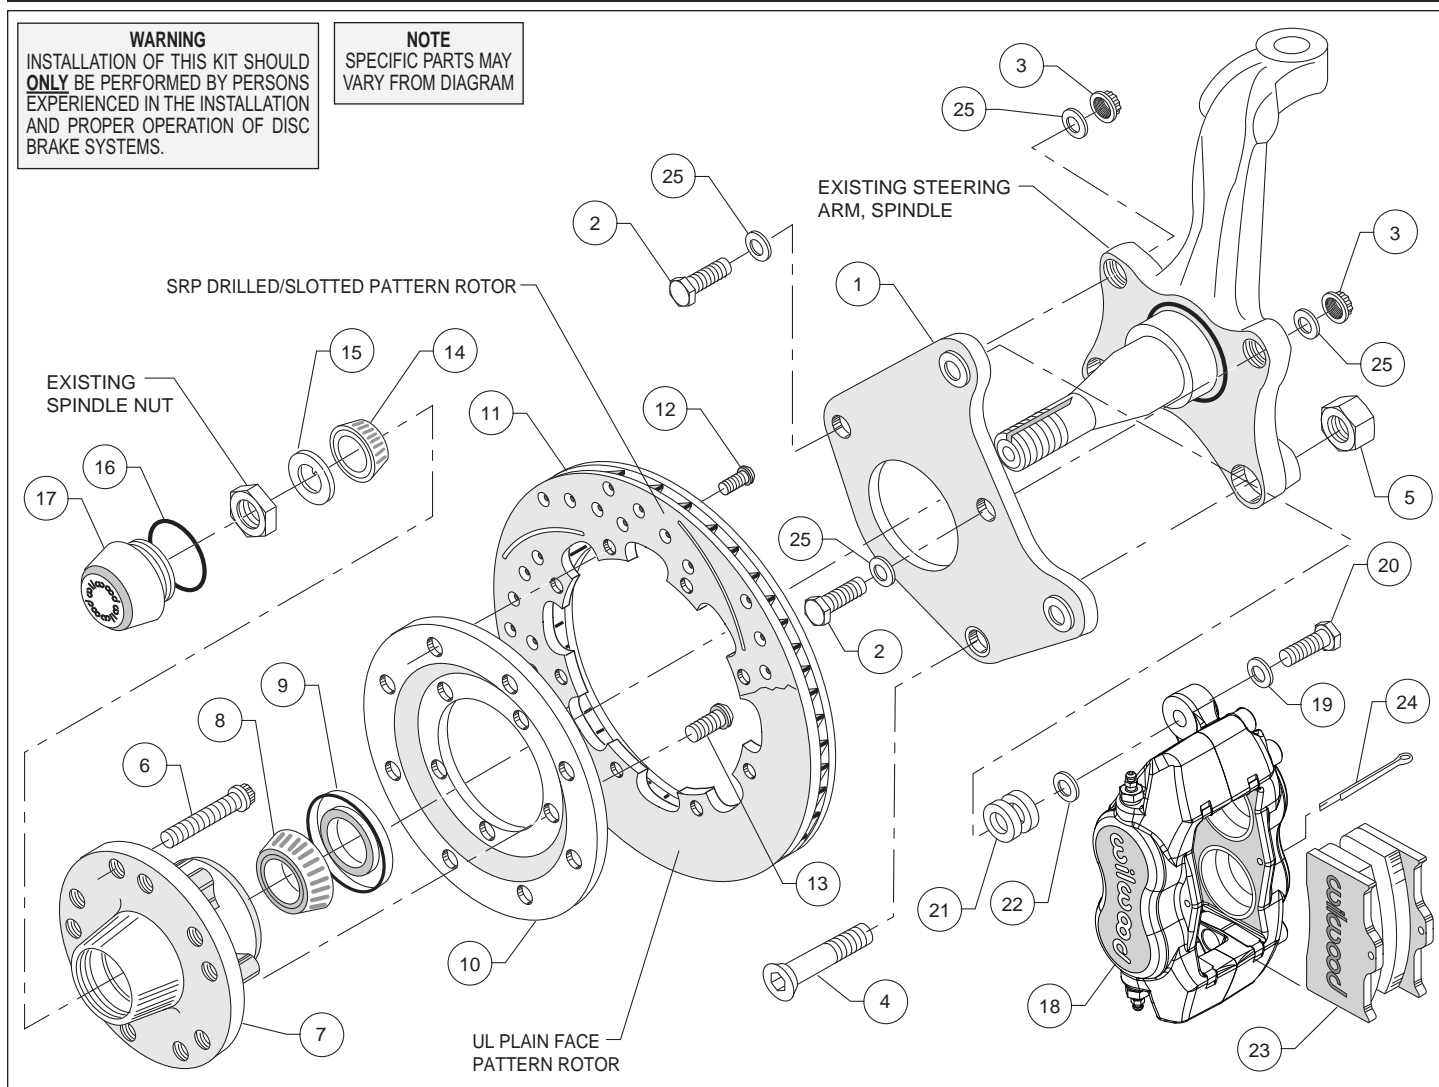

Figure 1. Typical Installation Configuration
- Apply red *Loctite*® 271 to bolt threads (2 and 4) before assembly of the caliper bracket (1) to backing plate face of spindle. Then install bolt (4) through caliper bracket (1), spindle face and the steering arm. Finger tighten the bolt (4) with lock nut (5). Install and finger tighten two bolts (2) with lock nuts (3). Torque two lock nuts (3) to 47 ft-lb. Torque lock nut (5) to 140 ft-lb. **NOTE:** Be sure the heads of the caliper bracket (1) insert nuts are facing outward toward the wheel.
- Install five new wheel studs (6) into the hub (7). Torque to 77 ft-lb. **NOTE:** There are two five lug patterns in the hub (5 x 4.00 and 5 x 4.50). Make sure of the correct hole pattern for the correct wheel application before installing studs into hub.
- Pack the large inner bearing cone (8) with high temperature disc brake bearing grease (available from your local auto parts store) and install into the backside of the hub (7).
- Install the grease seal (9) by pressing into the backside of the hub (7).
- Orient the rotor (11) and the rotor adapter (10) as shown in Figure 1. Attach the rotor to the adapter using bolts (12). Using an alternating sequence, apply red *Loctite*® 271 to the threads, and torque to 25 ft-lb.
- Mount the adapter/rotor assembly (10/11) to the hub (7) using bolts (13), as shown in Figure 1. Using an alternating sequence, apply red *Loctite*® 271 to the threads, and torque to 45 ft-lb.
- Pack the small outer bearing cone (14) with high temperature disc brake bearing grease. Lightly coat the spindle bearing surfaces with bearing grease. Slide the hub/rotor assembly (7 and 11) with outer bearing cone (14) onto the spindle. Secure using spindle washer (15), existing adjusting nut and nut locking device. Adjust bearings per OEM manufacturer specifications.